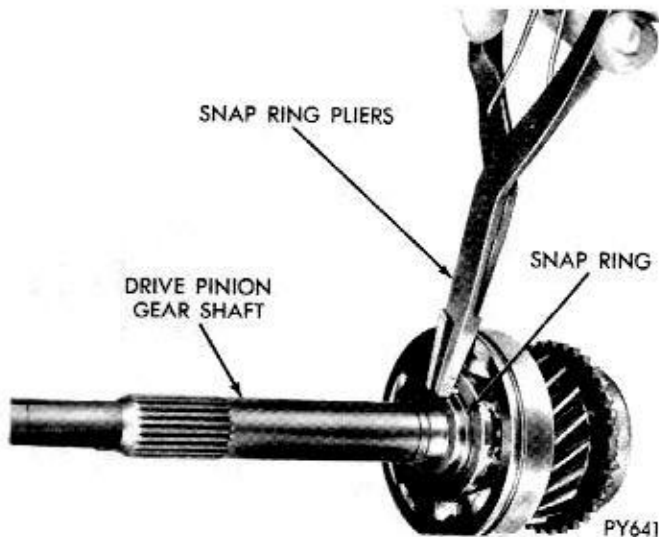

Fig. 12—Snap Ring, Pinion Shaft to Bearing—Removal or Installation
(8) Press new bearing on pinion with snap ring groove forward. Install snap ring on shaft (Fig. 12).